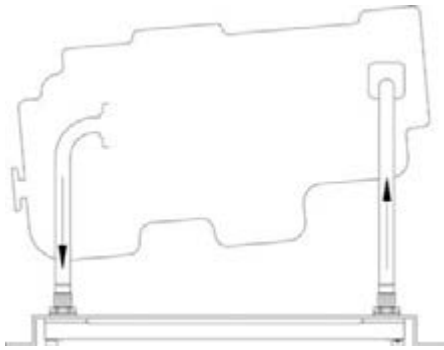

FIG. 12 Plumb keel cooler directly to the engine (simplified)
2.5.2 When converting an engine from inboard heat exchanger cooling to keel cooling, do not pipe the keel cooler to a heat exchanger, bypass the heat exchanger and pipe the keel cooler directly to the engine. See Figure 12 (next page).